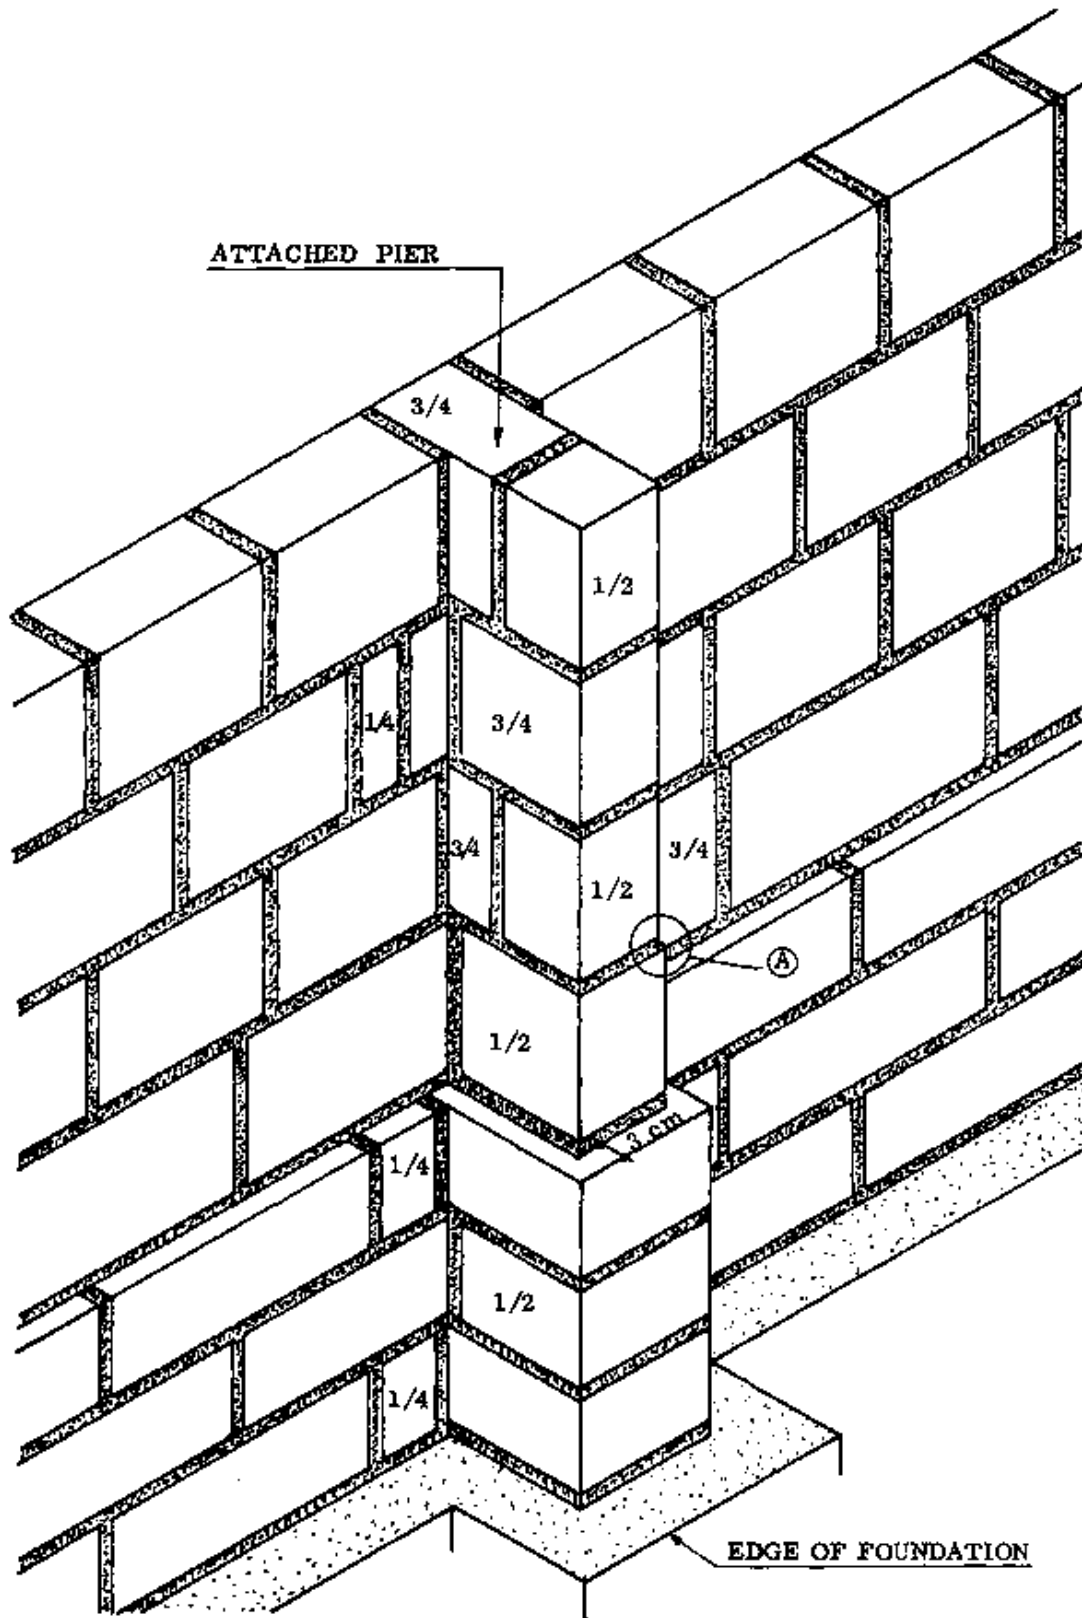

Fig. 1
The construction of an attached pier is very similar to that of a T-junction. The only difference is that the wall which joins the front wall is very short, and with a stopped end, thus forming an attached pier (Fig. 1).
- NOTE: The plinth course is set back everywhere from the footings by 4 cm, except on the back side of the attached pier where it is set back only 3 cm (Fig. 1).